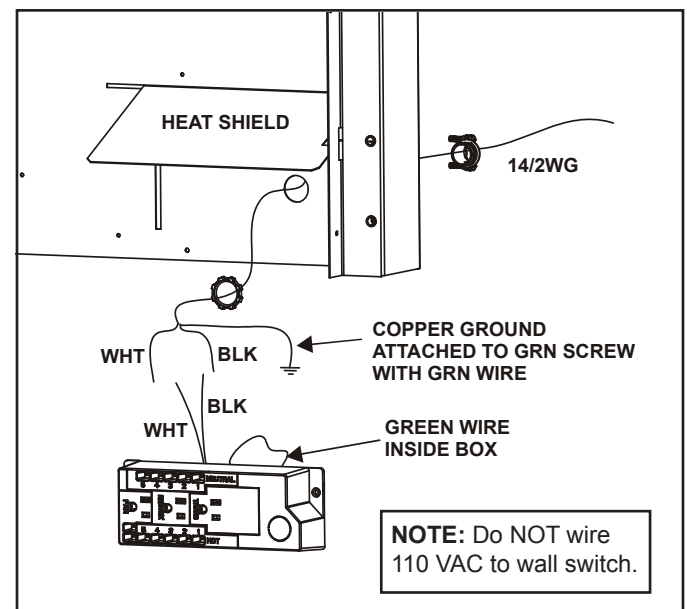

Figure 6.1 Junction Box Detail
- Remove the screw attaching the junction box to the outer shell, rotate the junction box inward to disengage it from the outer shell (see Figure 6.1).